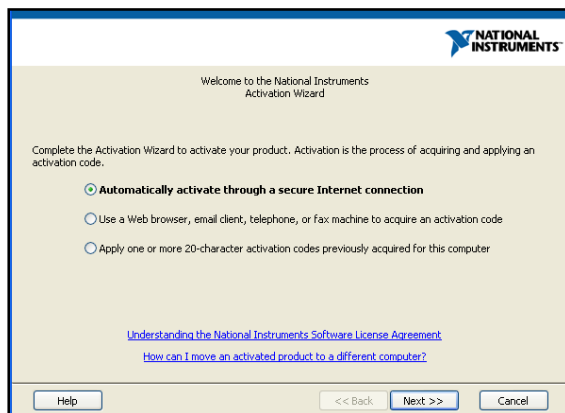

Figure 6. NI activation wizard.
8. Activate the National Instruments product through a secure internet connection (Fig. 6) and click *NEXT*.